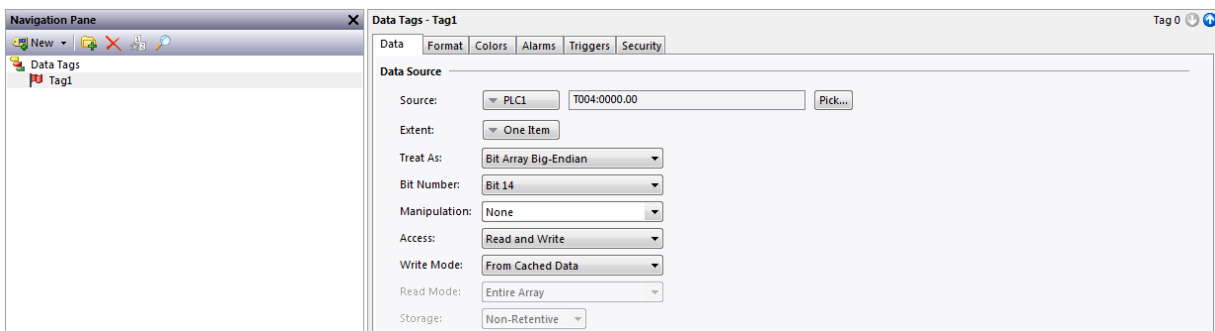

Figure 9.
- 2 – ACC Timer Accumulated Value. To map a tag to the count up enable bit above (T4:0/TT in RSLogix 500) in Crimson you would map a Flag tag to T004:0000 0 - STAT. Set the Treat As: parameter to *Bit Array Little-Endian* and choose Bit 14 for the Bit Number, as shown in Figure 9.